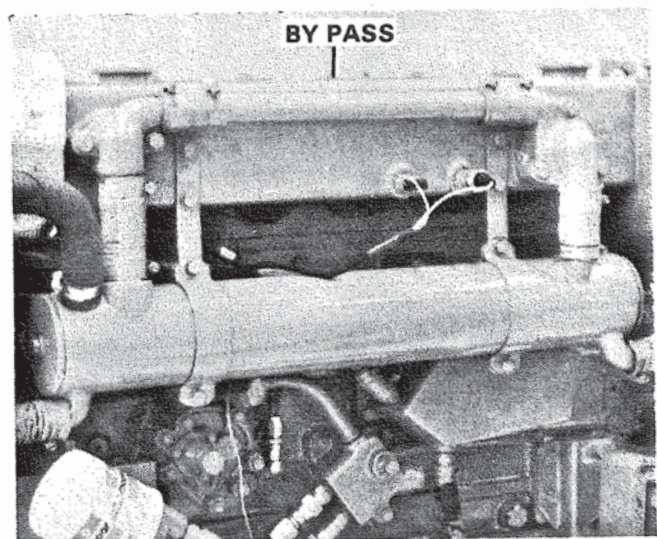

Figure 12. Disconnecting Cooling System Bypass.
2. Disconnect cooling system bypass. Figure 12. Remove heat exchanger.